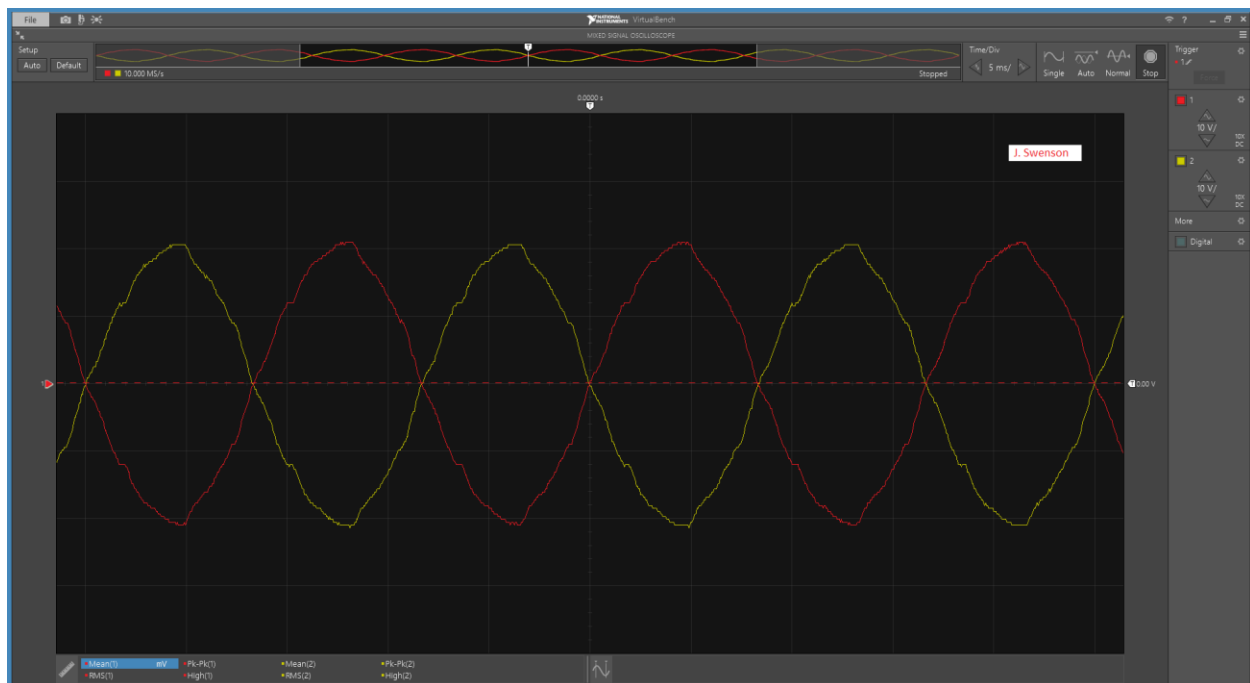

Figure 4: Output Waveforms from the Center-Tapped Step-Down Transformer Schematic.
4. Turn on the transformer and use the **Auto Set** button in the VirtualBench user interface to display the two waveforms, which should look like the screen capture illustrated in **Figure 4** below.